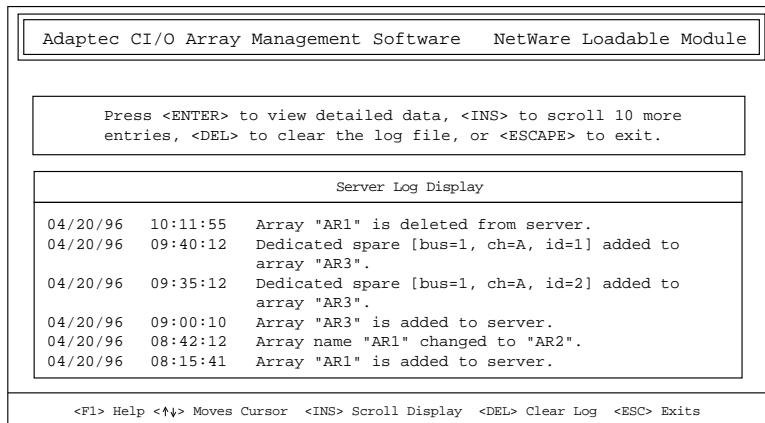

Figure 4-2. Server Log
- 1 Select **Display Server Log** from the Main Menu. The Server Log appears, similar to Figure 4-2.